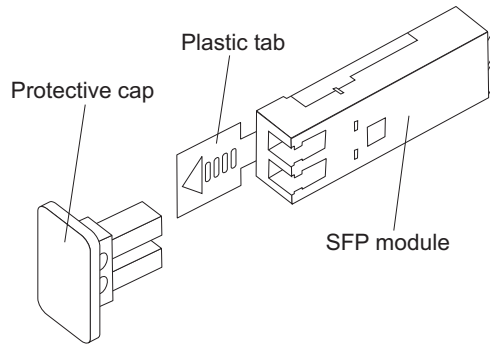

Figure 25. SFP module and protective cap
2. Remove the protective cap from the SFP module, as shown in Figure 25. Save the protective cap for future use.
2. If necessary, remove the protective cap from the SFP module, as shown in Figure 25 on page 50. Save the protective cap for future use.